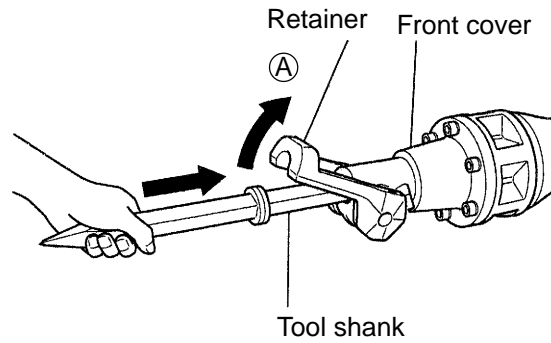
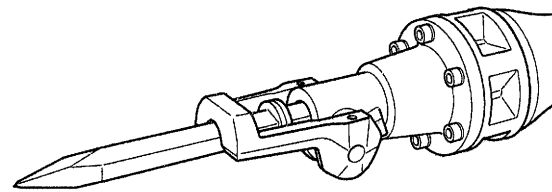

Fig. 9
Fig. 10
- (1) Mounting air tool shank tool and standard hex. shank tool
Raise the retainer in ① direction and insert the tool shank into the hexagonal hole of the front cover as far as it will go (Fig. 9). Put the retainer back in position to fix the tool shank (Fig. 10).